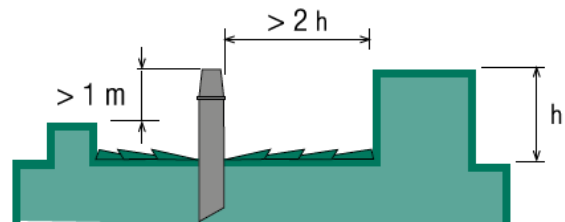

Figure 10.2
- On roofs with an inclination $> 20^\circ$ one of the assumptions indicated in figures 10.2 and 10.3 must be met.